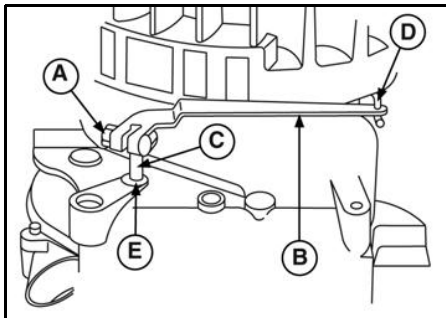
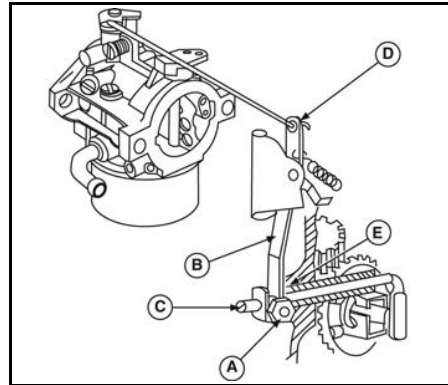

Figure 14
Figure 15
2. Loosen governor lever nut (**A**, Figure 14, Figure 15).